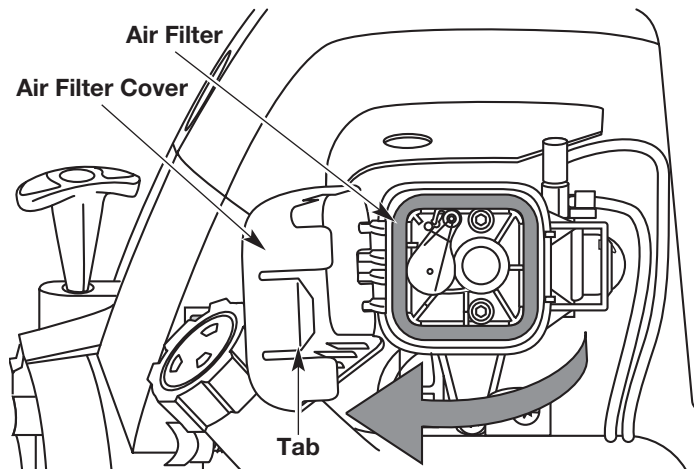

Fig. 44
1. Open the air filter cover. Push the tab on the right side of the cover inward. Then pull the air filter cover out and to the left (Fig. 44).
2. Remove the air filter (Fig. 44).